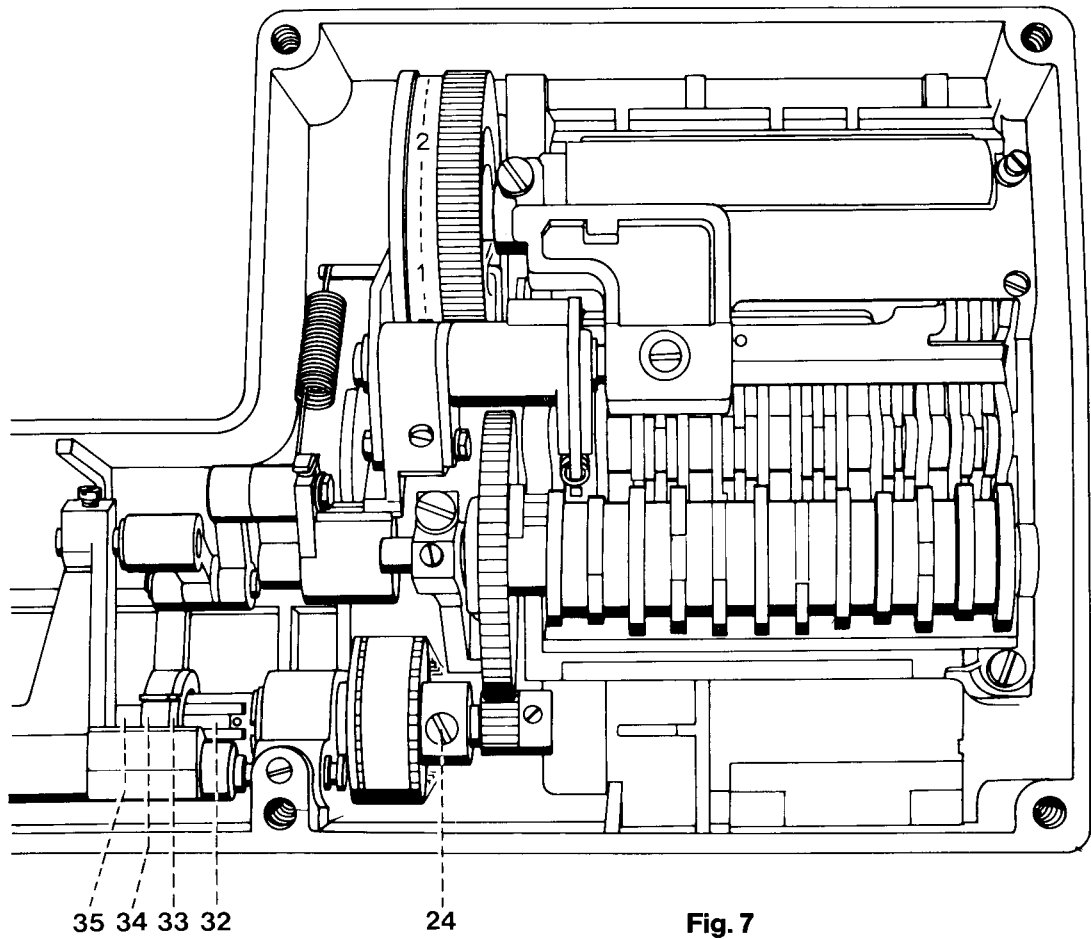

Fig. 7
- Turn the long driving shaft 35 in its normal direction of rotation until the setting marks on the feed driving eccentric and the connection are opposite each other (Fig. 7).
Fig. 7 a
Fig. 7 b